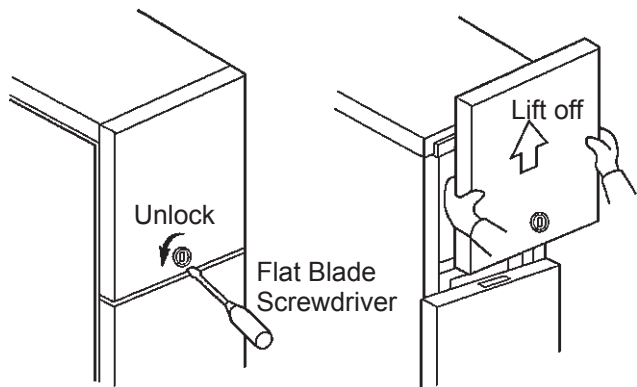

Fig. 5
3) Unlock the Front Panel (Upper) by turning the Hook counterclockwise with a flat blade screwdriver. Lift off the Front Panel (Upper). See Fig. 5.